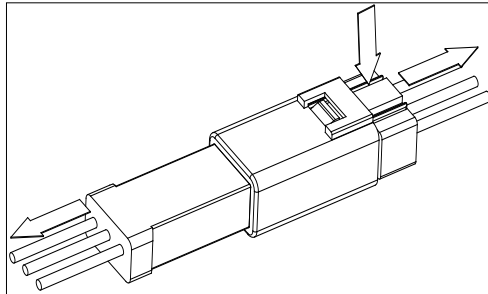

Figure 7-2 Disconnect the watertight cable connector
2. Disconnect the watertight cable connector from cooling fan, as shown in Figure 7-2.